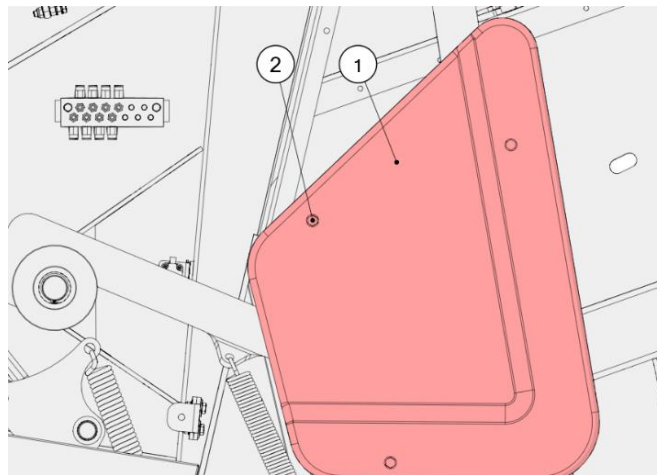

Figure 19. Lock guard
- Remove the lock guard (1) by loosening the bolts (2) as shown in Figure 19